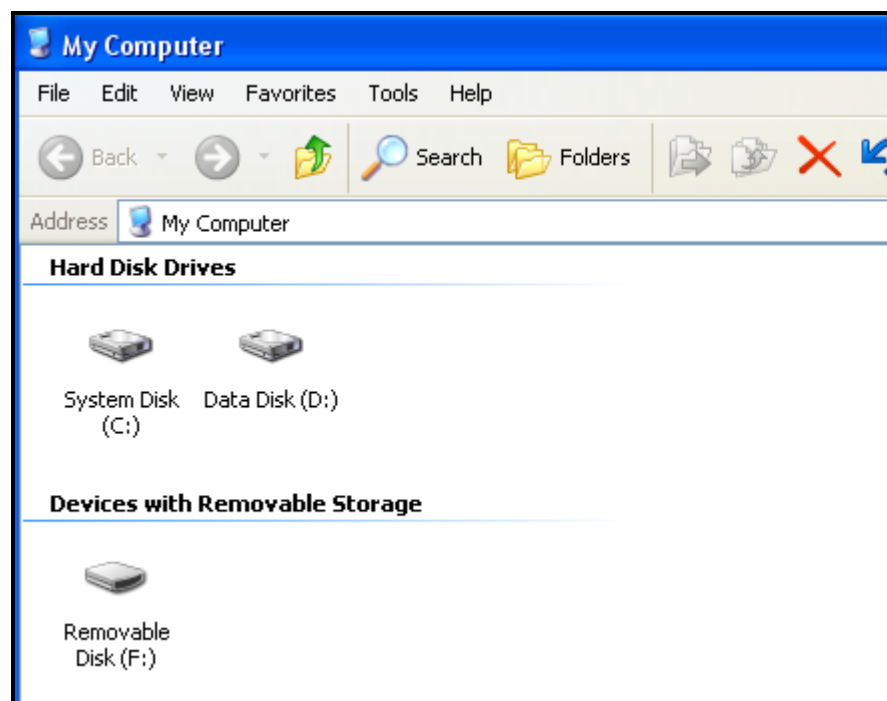

Figure 57: Locating the Device
1. From the PC, open My Computer and find the device (see Figure 57).